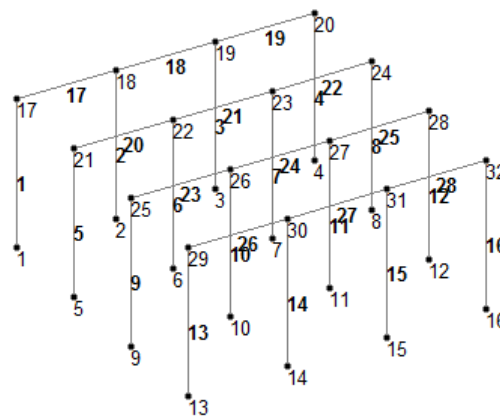

Figure 2-13 Horizontal members created
Step 7: Choose the **Save** button and close the **STAAD Editor** window; the members are created, as shown in Figure 2-13.